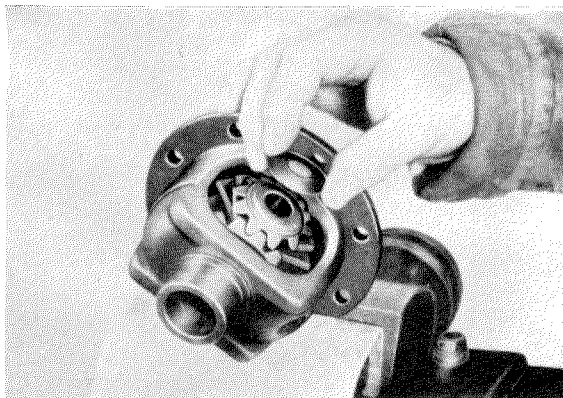

Fig. 35 — 4/47
119. Use Assembly Arbor 136 589 13 61 in place of the differential pinion shaft (8), to slide in the differential pinion gears (7) with the dished washers (6) (Fig. 35 — 4/47 and Fig. 35 — 4/48).